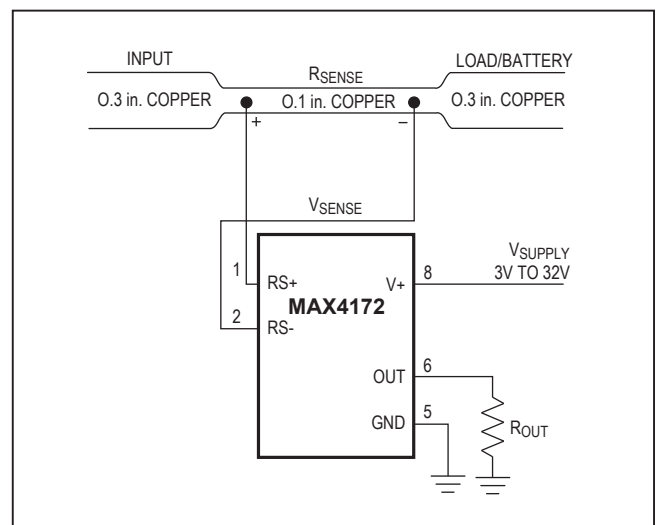

Figure 2. MAX4172 Connections Showing Use of PC Board
- **Cost:** If the cost of R_{SENSE} is an issue, you might want to use an alternative solution, as shown in Figure 2. This solution uses the PCB traces to create a sense resistor. Because of the inaccuracies of the copper resistor, the full-scale current value must be adjusted with a potentiometer. Also, copper’s resistance temperature coefficient is fairly high (approximately 0.4%/°C).
In Figure 2, assume that the load current to be measured is 10A, and that you have determined a 0.3-inch-wide, 2-ounce copper to be appropriate. The resistivity of 0.1-inch-wide, 2-ounce (70µm thickness) copper is 30mΩ/ft. For 10A, you might want R_{SENSE} = 5mΩ for a 50mV drop at full scale. This resistor requires about 2 inches of 0.1-inch-wide copper trace.